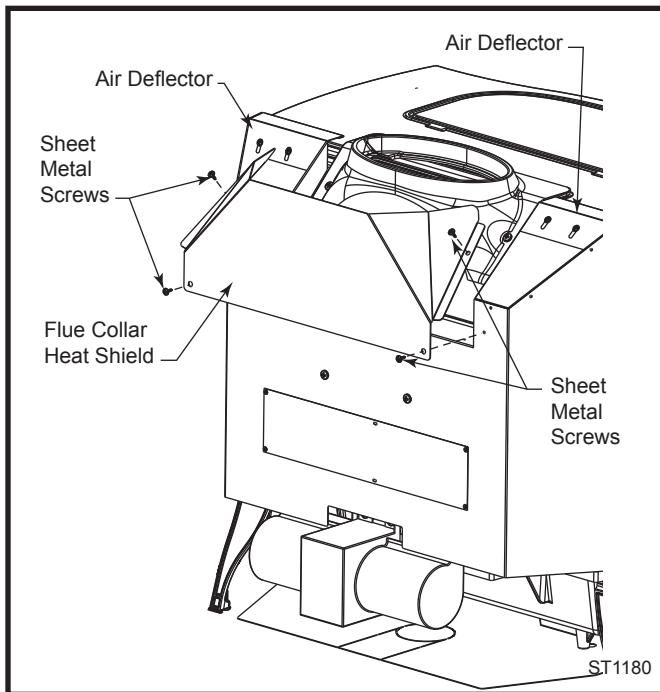

Fig. 24 Install flue collar heat shield.
If you have the optional fan kit, you may decide to adjust the air deflector to blow heat across the top of your stove. (Fig. 24) Loosen the two (2) screws on each side and raise or lower the deflector. After adjustment, tighten the screws.
**WARNING:** The flue collar heat shield must be attached to the Defiant stove. Use four #10 sheet metal screws supplied to secure the flue collar heat shield to the rear of the stove. (Fig. 24)